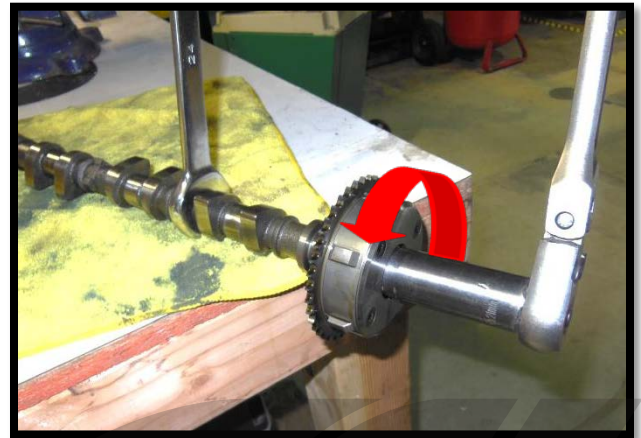

Figure 5a
- a) Remove the adjustable cam gear from the factory intake camshaft. Place the camshaft on a bench. Use the 23mm wrench on the hexagonal portions of the camshaft to keep it from twisting and break the bolt loose with a 21mm socket (Figure 5a).